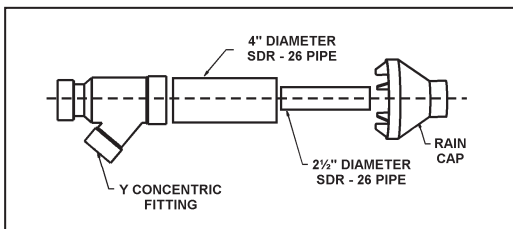

Figure: 25
- Cement Y concentric fitting to larger diameter kit pipe, see Figure 25.
NOTE: If assembly needs to be extended to allow side wall thickness requirement, the 2 pipes supplied in the kit may be replaced by using same diameter, field-supplied SDR-26 PVC (D2241) pipe. Do not extend 21 1/8" (53.6 cm) dimension more than 60" (1.5 m). See "Figure: 25".